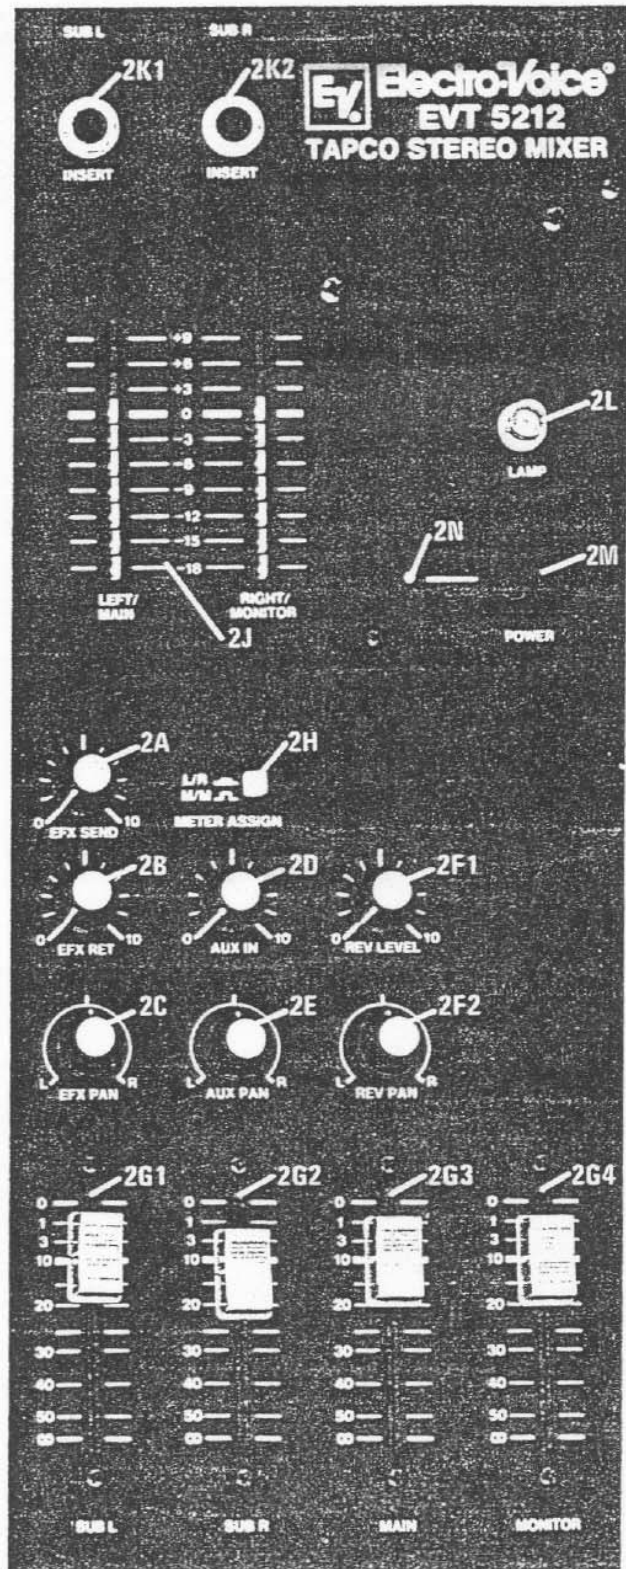

FIGURE 2 - Output Section Controls and Functions
2. OUTPUT SECTION CONTROLS (Figure 2)